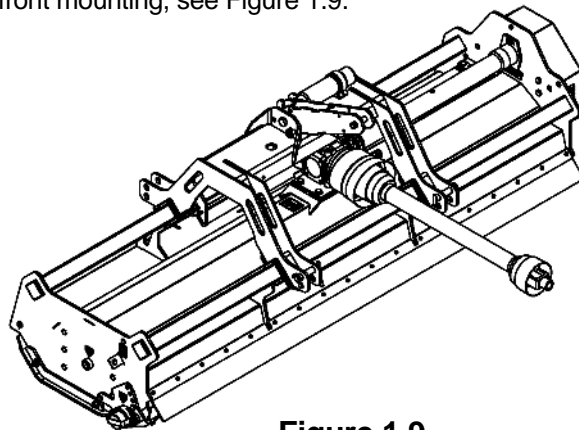

**Figure 1.8**
1.5.1.2 The machine is normally supplied configured for rear mount, see Figure 1.8.
1.5.1.3 Remove lynch pin Figure 1.8 (A) and rotate Top link arm Figure 1.8 (B) to the rear and refit lynch pin.